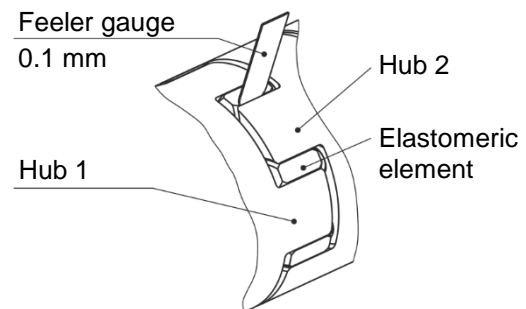

Fig. 16
No abraded particles are allowed on the elastomeric element (2), as the ROBA®-ES is a backlash-free coupling. The gap between two claws must be filled with the elastomer, with no room for backlash. You should not be able to insert a feeler gauge with a thickness of 0.1 mm (Fig. 16).